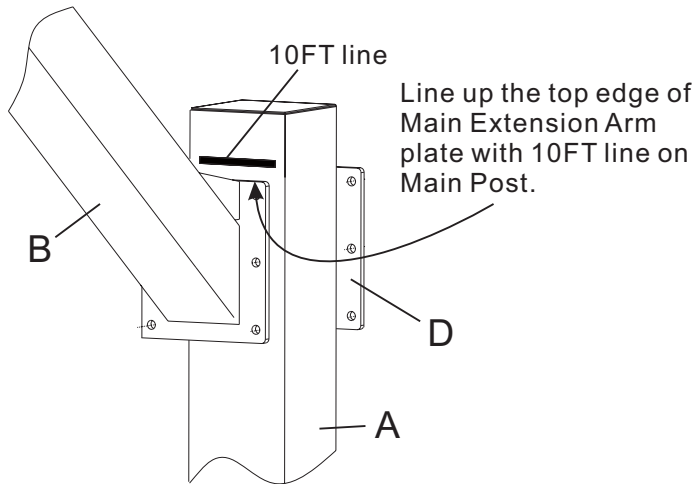

FIGURE 3A
- A. Position the Main Extension Arm (B) to the Line on Main post (A) as shown in Figure 3A.